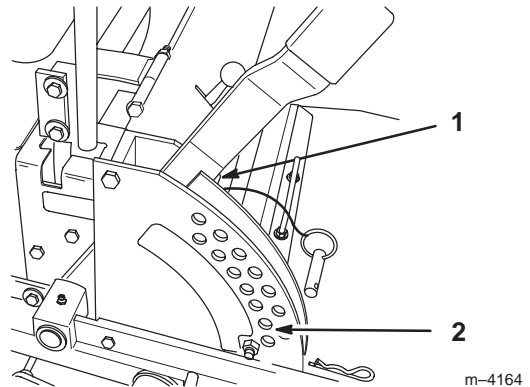

Figure 62
5. Place two 1-1/2 in. (38 mm) thick blocks under rear left and right lower edge of mower. Place one 2-1/4 in. (57 mm) block under front center lower edge of mower. Lower mower to the 2 in. (51 mm) height-of-cut position (Fig. 62).
1. Raise deck lift lever to the transport position, (Fig. 62).